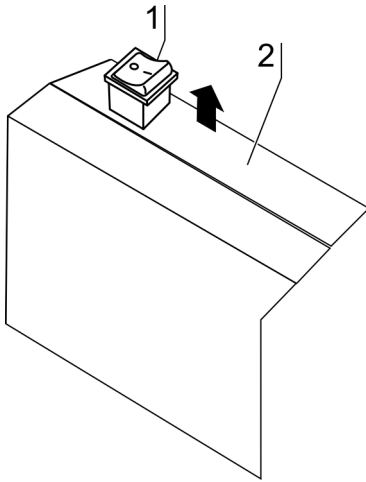

Figure 24. Pilot switch replacement
5. **Figure 24:** The switch [1] is merely plugged into the mounting frame [2] and can be lifted off.